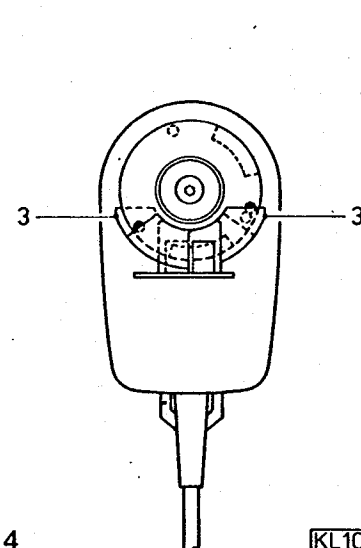

Fig. 4
Loosen screw (9), remove position transmitter cover (10) (figure 3). Turn handwheel to obtain functional position 1 and hold this position. Turn control disc (1) in conformity with figure 4 so that the points on the disc serving as setting mark coincide with the edge of the hood (3) for protection against external light. Some types of position transmitters have double discs facilitating the adjustment of the slot width. The leading slot of the discs (1) determines the first functional position and the trailing slot the function of the thread trimmer (e.g. for pneumatically activated thread trimmer